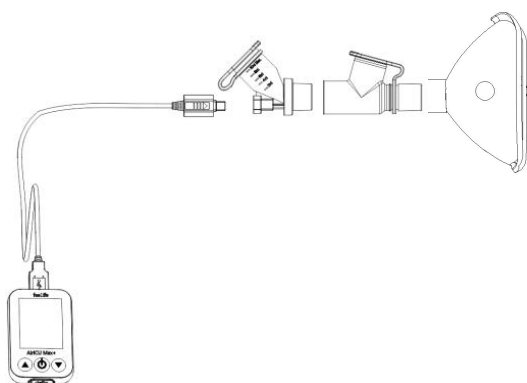

Figure 12. Installation of Medication Cup, Mask, USB Cable and Main Unit
- 1) Install the nebulizer components correctly according to Figure 12.